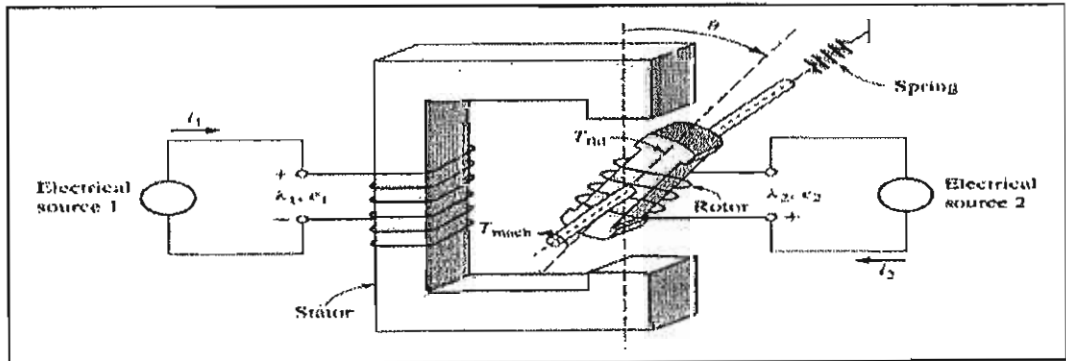

Fig.3
5. In an electromagnetic-energy-conversion-device shown in fig.3, if one winding is mounted on a stationary member of iron and another winding is mounted on the movable member of iron then obtain the expression for electromagnetic torque in this doubly excited rotational electromechanical energy converter. Assume the necessary parameters for the system concerned. Also derive expressions for the speed and the transformer emfs. 10+6=16